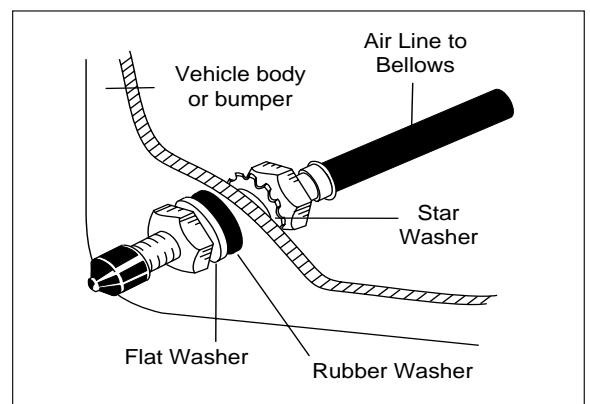

Figure 9
- Use a standard tube cutter, a razor blade, or very sharp knife to cut the air line in two equal lengths. A clean square cut will ensure against leaks. Drill a  $\frac{5}{16}$ " hole for inflation valve and mount as illustrated. The rubber washer on the outside is for weather seal (Figure 9).